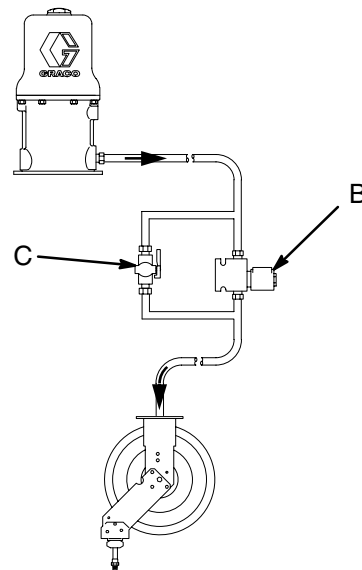

Fig. 21
1. See Fig. 21. This installation is a quick way of bypassing the fluid solenoid (B), but it can be costly if there are a number of reels to install the bypass valve (C) on.